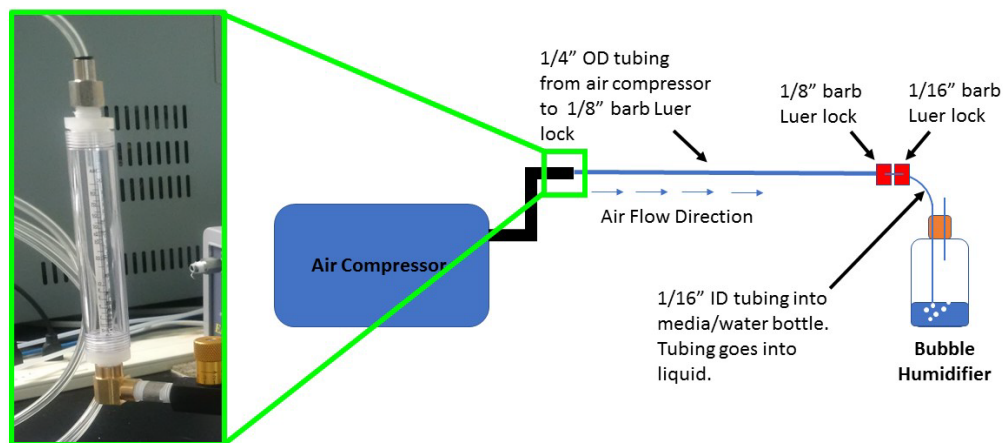

Figure 3. Illustration describing the parts needed to connect the bubble humidifier to the air compressor.
1. The flowmeter attached the air compressor is connected to 1/4" OD tubing (**Figure 3**).
3. Connect the tubing from the flowmeter to the tubing connected to the bubble humidifier using a 1/8" barb Luer lock (**Figure 3**).